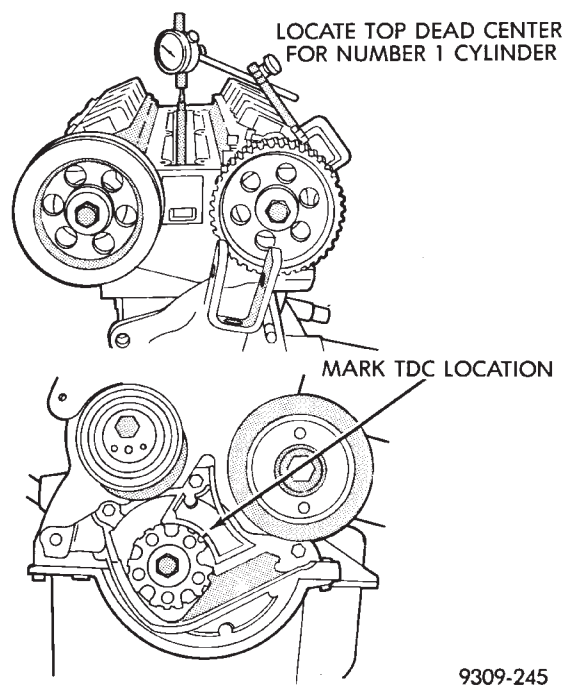
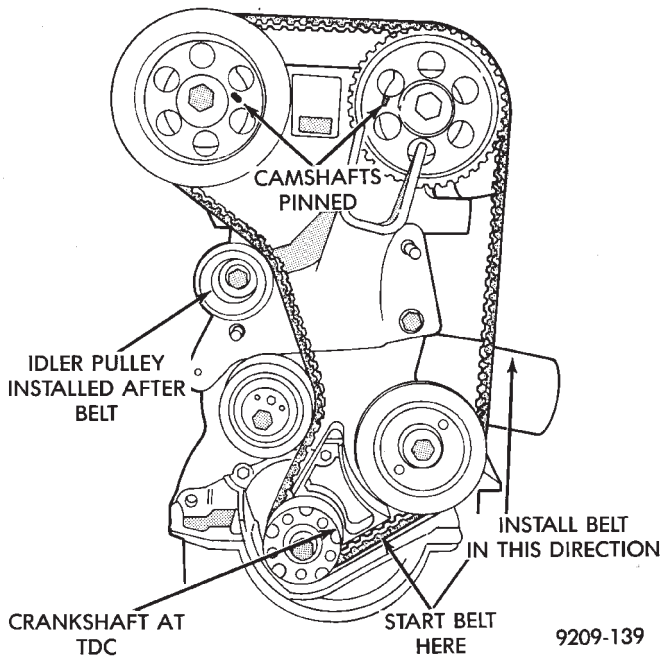

Fig. 10 Dial Indicator Located in Number 1 Cylinder
Fig. 11 Camshafts and Crankshaft Timing Marks
- (6) Install a dial indicator in Number 1 spark plug hole (Fig. 10).
- (7) Rotate crankshaft till number 1 piston is at Top Dead Center. Mark the engine block for TDC reference.
- (8) Install timing belt and idler pulley in sequence shown in (Fig. 11).
- (9) Remove dial indicator from cylinder head (Fig. 10). Remove drills or pins from camshaft sprockets (Fig. 11).